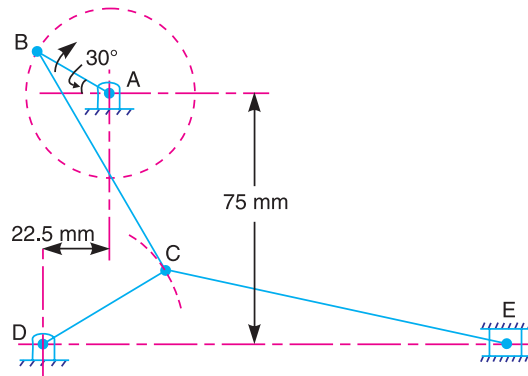

Fig. 7.36
6. The dimensions of the various links of a mechanism, as shown in Fig. 7.36, are as follows :